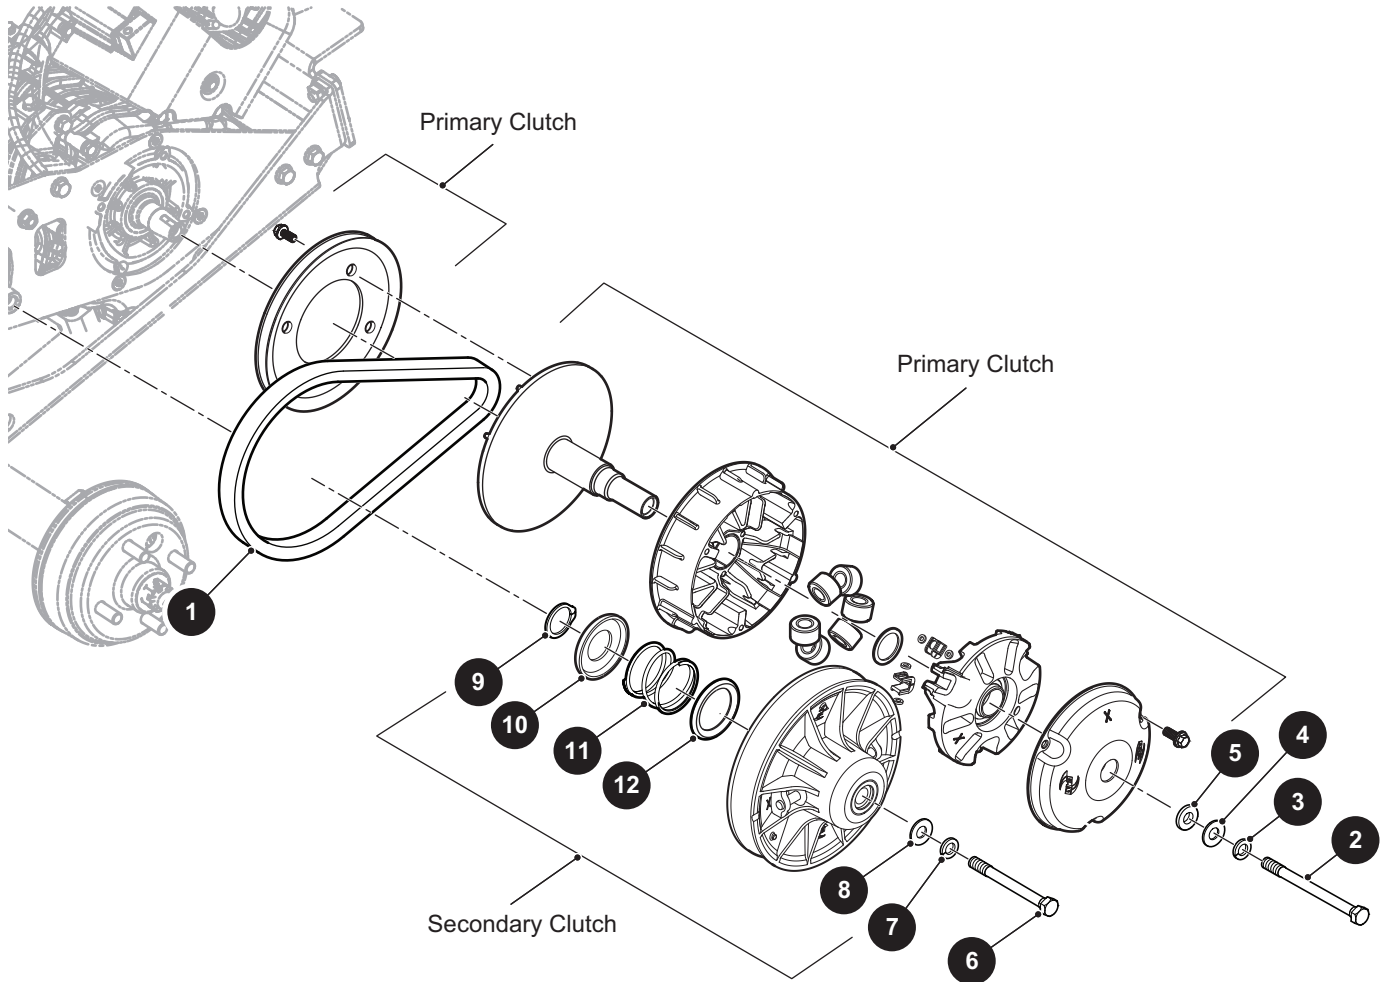

Fig. 3 CVT Components
Remove the CVT belt (1) (Ref. Fig. 3). Remove the Starter/Generator belt (Refer to Starter/Generator
Remove the bolt (2) from the center of the primary clutch (Ref. Fig. 3).
Clean both the engine crankshaft and the primary clutch bore. Slide the clutch onto the engine crankshaft and rotate the clutch while lightly pushing the movable sheave in and out several times to seat the clutch on the tapered crankshaft (Ref. Fig. 3).